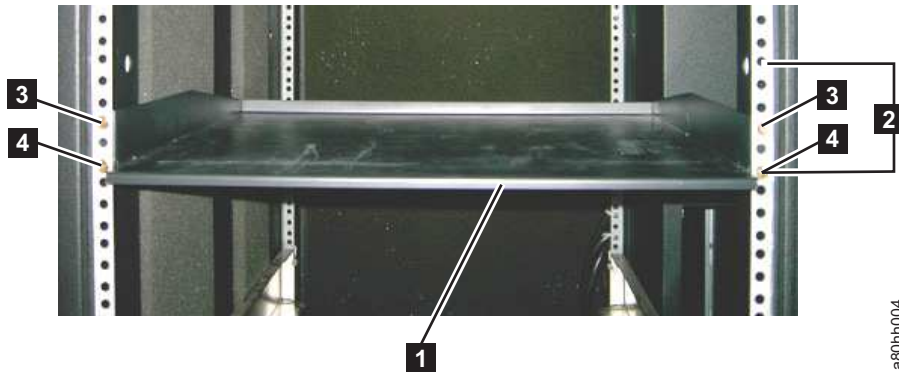

Figure 29. Front view of shelf attached to rack rails
1. Decide at what level you want to install the shelf. The 3580 requires two units (EIAs) of rack space (see **2** in Figure 29 on page 81).
**Note:** All vertical rack measurements are given in rack units (U). One U is equal to 4.45 cm (1.75 in.). The U levels are marked on labels on one front mounting rail and one rear mounting rail.